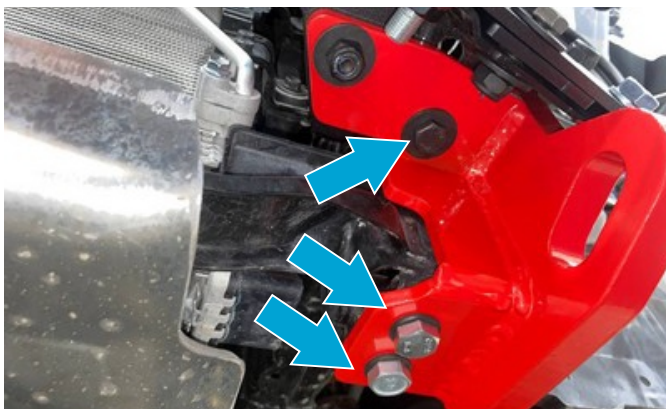

Fig.45
42. Tighten the hardware shown in Fig.45.